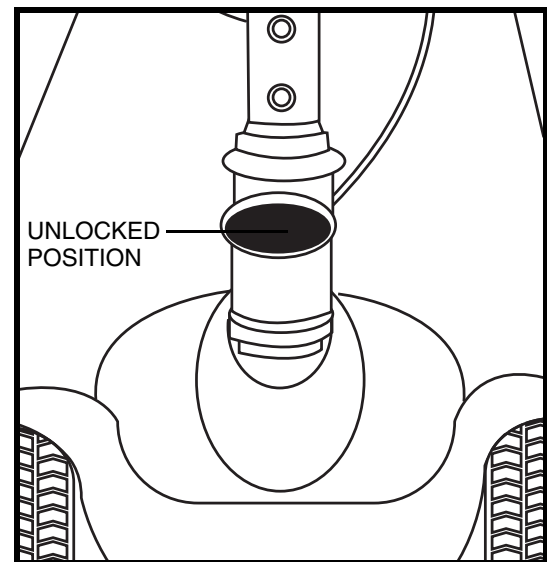

Figure 24. Tiller Lock Knob (Unlocked)
6. Unlock the front wheel by turning the tiller lock knob 90° anticlockwise. See **figure 24**.